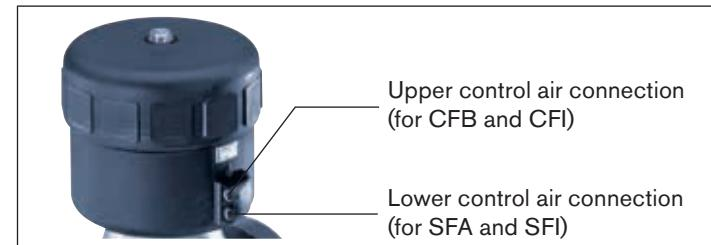

Fig. 17: Control air connection
- Pressurize lower control air connection with compressed air (value as indicated on the type label) (see "Fig. 17").
- Pressurize upper control air connection with compressed air (value as indicated on the type label) (see "Fig. 17").